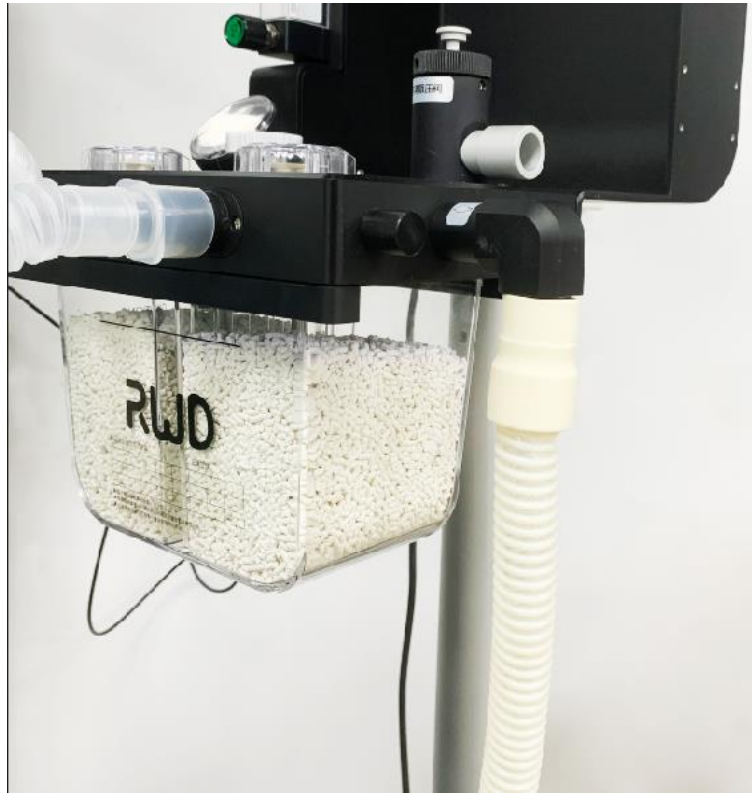

Figure 3-5
- 3) Connect the ventilator to the anesthesia system. Remove the breathing bag from the anesthesia machine, connect the 22mm connector (transparent) to the breathing bag interface of the anesthesia machine with a threaded pipe, as shown in Figure 3-5, and close the adjustable pressure limiting valve (APL valve) at the same time;